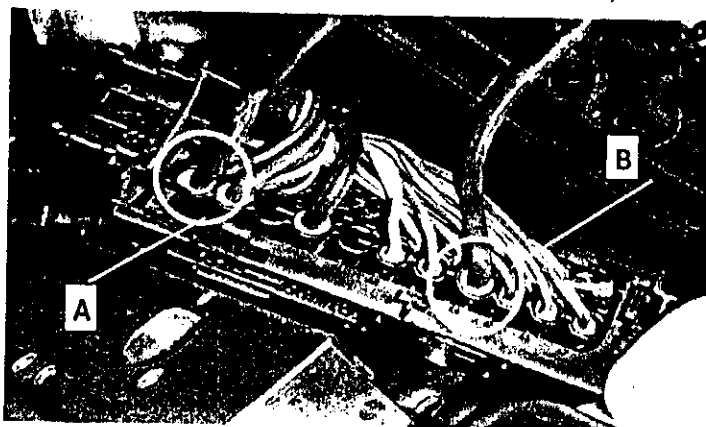

Figure 9: A = pin 37, B = pin 44
11. Be sure to remove pin 37 and pin 44 (Figure 9) from the SBC connector housing using cable release tool (W 000 589 13 99 30 and W 220 589 01 99 50), as the SBC connector housing otherwise can be damaged.